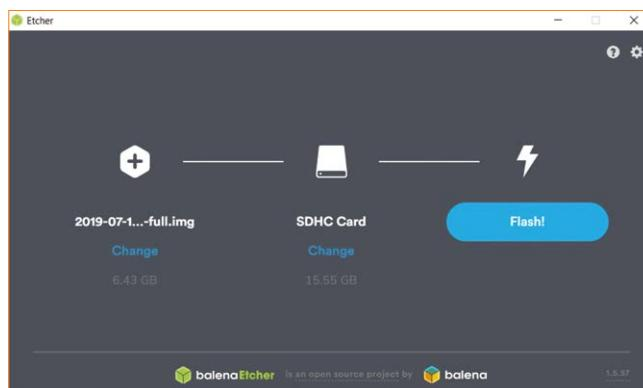

Figure 2.3: Click Flash to flash the disk image.
- Click **Flash** (see Figure 2.3). This may take several minutes, wait until it is finished. The program will then validate and unmount the micro SD card. You can remove your micro SD card after it is unmounted.